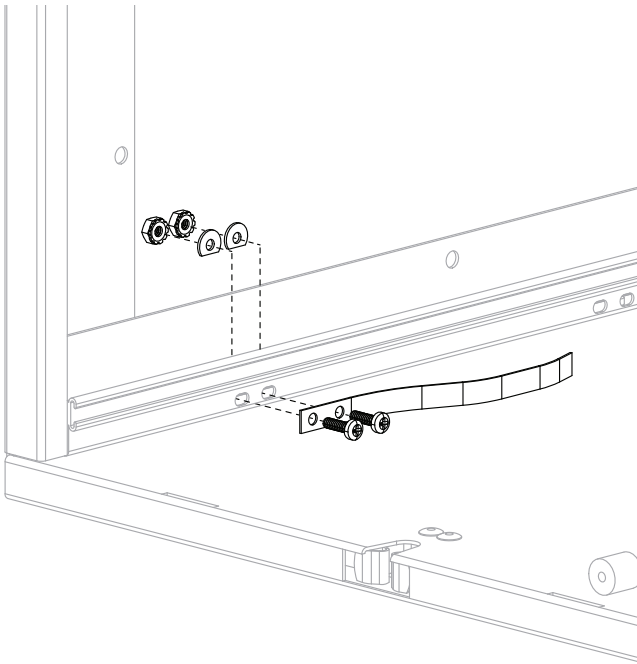

Fig. 6 – Alternate Filter Ground Spring Attachment
3. Slide the anti-rotation washers over the ends of the screws. The flat side of the washer should be seated on the fin seal rails. See Fig. 6.